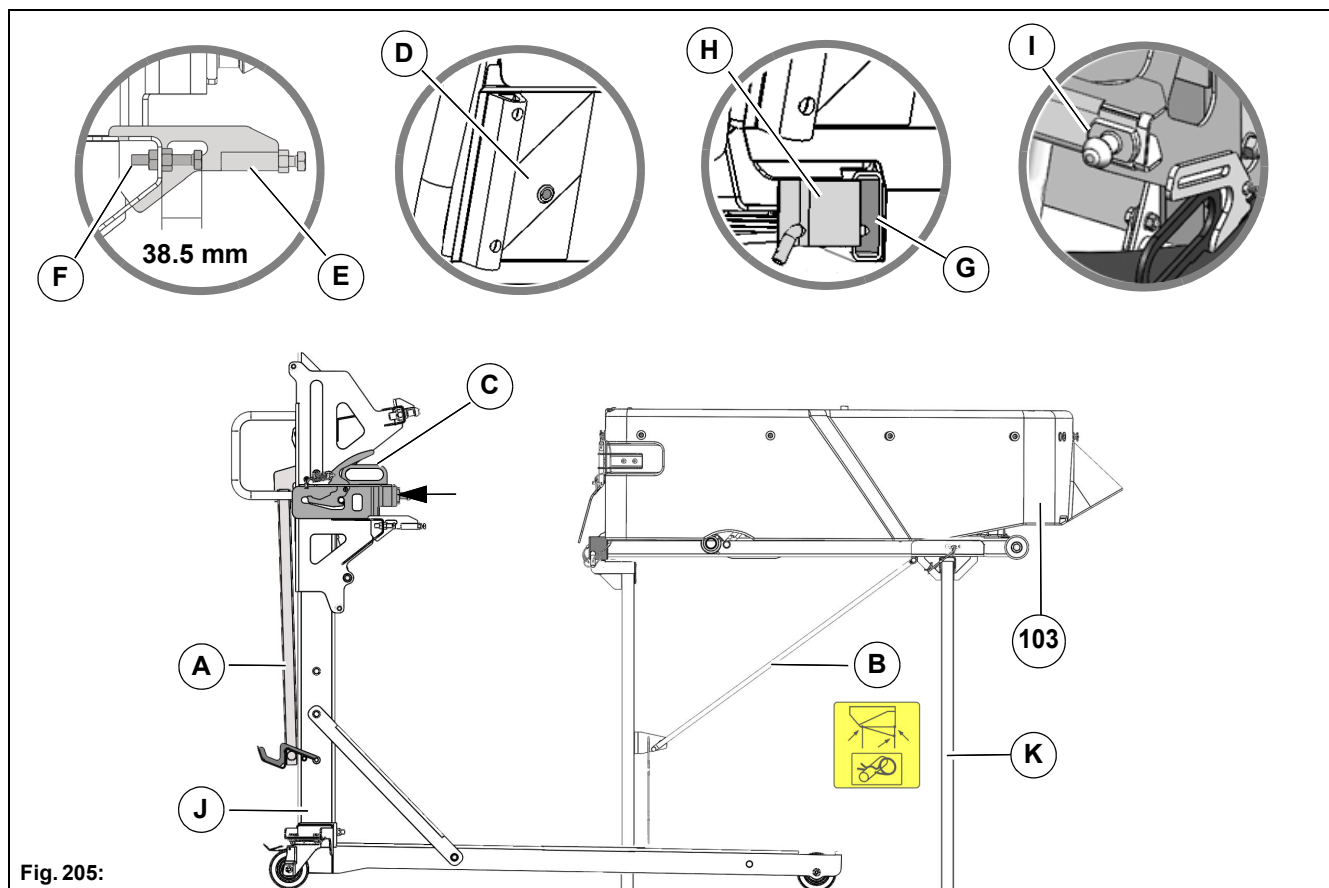

Fig. 205:
Risk of injury due to tilting over! Make sure that the cross strut **Fig. 205-B** has been inserted when transporting the loading platform on the supports **Fig. 205-K**. Secure the supports with bolts and splints.
5. Push the trolley **Fig. 205-J** (optional) with the lower positioning aid **Fig. 205-E** into the spars **Fig. 205-G** and against the fixed bearings **Fig. 205-H** of the loading platform **Fig. 205-103**. The screw **Fig. 205-F** must be adjusted to 38.5 mm!
6. Carefully lower the lever **Fig. 205-A** of the trolley and make sure that the locking pins **Fig. 205-I** sit in the holders of the loading platform. Lock the lever.
7. Remove the supports **Fig. 205-K** (optional). To do this, pull out the split pins and the bolts.